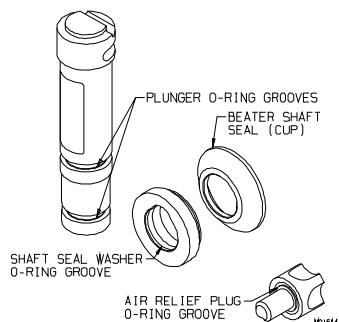

Figure 6-7 Clean shaft seal and plunger o-ring grooves
- (See figure 6-7.) The shaft cup seal, plastic washer, plunger O-ring grooves, and air relief plug grooves.